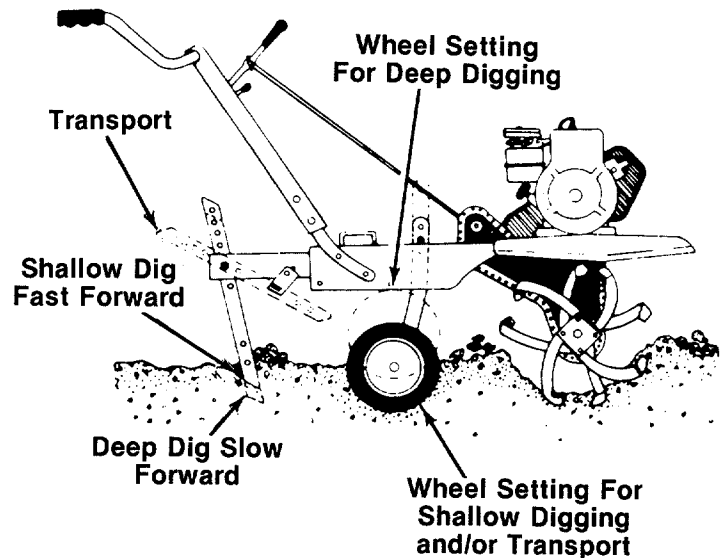

FIGURE 17.
2. **Depth Bar Adjustment:** The depth bar acts as a brake for the tiller and controls the depth and speed at which the machine will operate. See figure 17. Remove the clevis pin and spring pin to raise or lower depth bar.